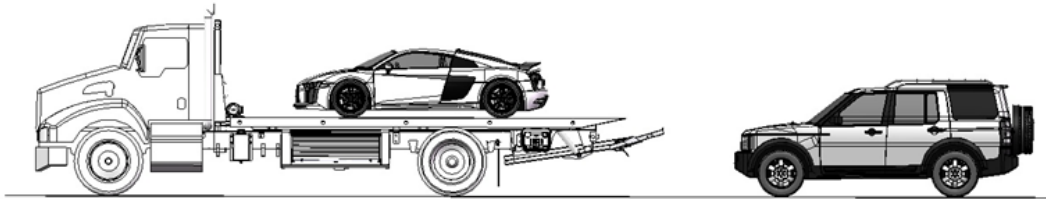

FIGURE 41 – POSITION THE TRUCK
A load must be on the carrier before you use the wheel lift for towing another vehicle, as shown in Figure 41.
2. Align the truck with the vehicle to be towed. Position the truck three to four feet from the vehicle to be towed, as indicated in Figure 41.